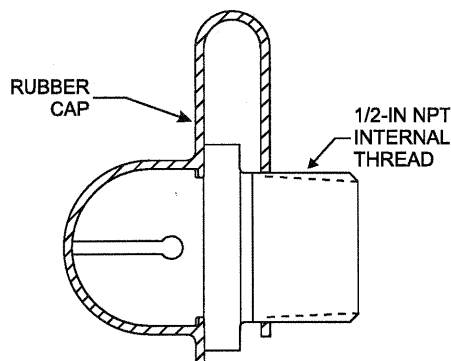
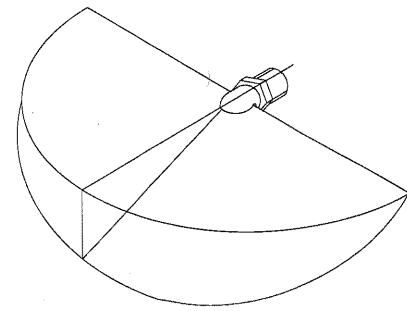

Figure 2-16. Tankside Nozzle (P/N WK-259072-001)
Figure 2-17. Tankside Nozzle Spray Pattern
The tankside nozzle (P/N WK-259072-001) is a brass nozzle with a semicircular slot which delivers a 180° fan-shaped stream of dry chemical. This nozzle can be used for tankside local applications and can cover a larger area than the cone nozzle. This nozzle rests on the side of the tank. Figure 2-16 shows the tankside nozzle. Figure 2-17 shows the nozzle and spray pattern.
- Tankside Nozzle (Figure 2-16)